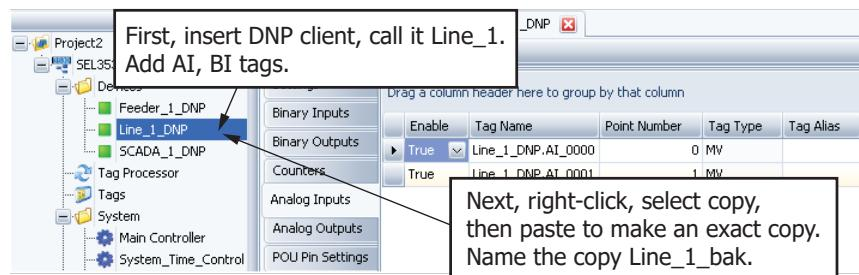

Figure 3.7 Insert Primary and Backup IED
Step 5. Copy and paste Line_1. Rename **Line_1copy** to **Line_1_Bak**. This will represent the backup relay on Transmission Line 1. See *Figure 3.7*.